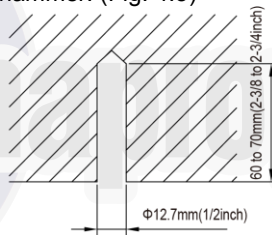

Fig. 4.4
- (2). Install the bolts to the ceiling at a place strong enough to hang the unit. Mark the bolt positions from the installation template. With a concrete drill, drill for 12.7 mm (1/2") diameter holes. (Fig. 4.4)